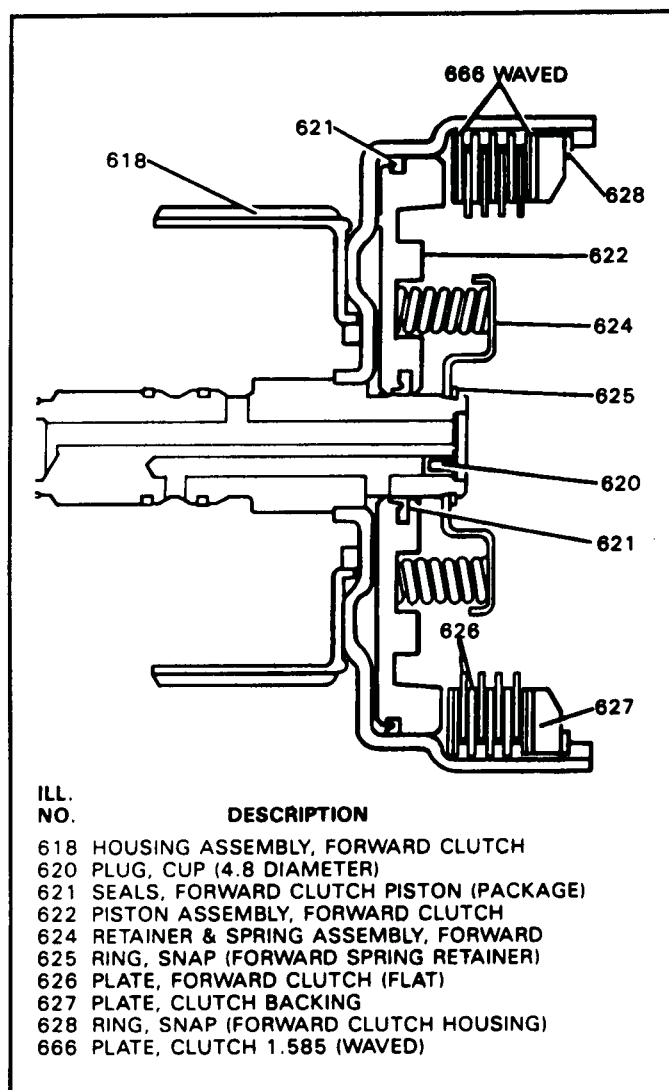

Figure 92
21. Install new inner and outer lip seals on forward clutch piston, with the lips facing the direction shown in Figure 92.
28. Install the forward clutch plates beginning with a lined plate on top of the waved, and alternate with steel plates until you have installed four lined plates and three steel plates, as shown in Figure 92.
29. Install the second wave plate on top of the last lined plate. There are two wave plates used in this clutch pack, as shown in Figure 92.
30. Install the forward clutch backing plate, with the bevel side facing up as shown in Figure 92.
31. Install the backing plate snap ring, as shown in Figure 92.